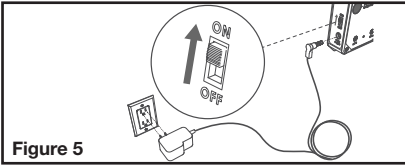

Figure 5
- c. Plug the device into a GFCI outlet and turn the On/Off switch to “On”. (Figure 5) NOTE: The status light should now be solid green